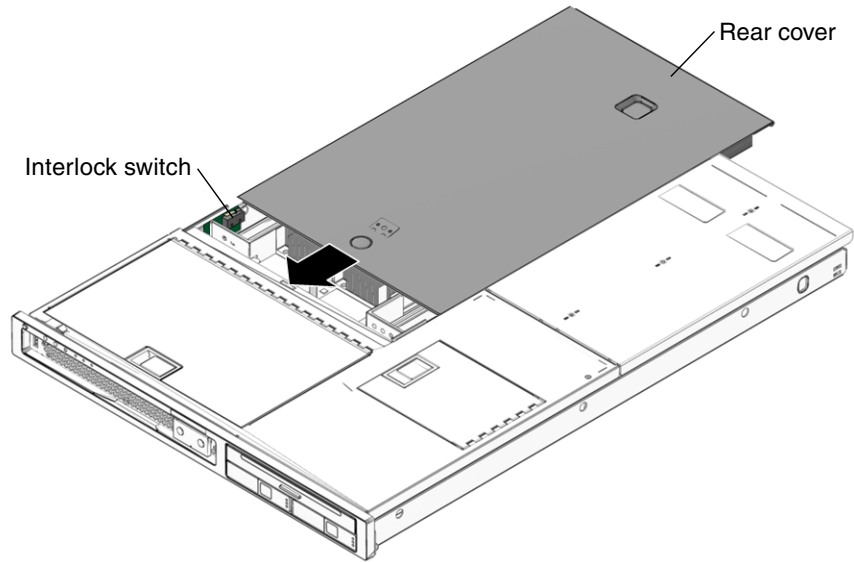

FIGURE 3-42 Installing the Rear Cover – Sun Fire V215 server
2. Slide the rear cover forward until it seats (FIGURE 3-42).